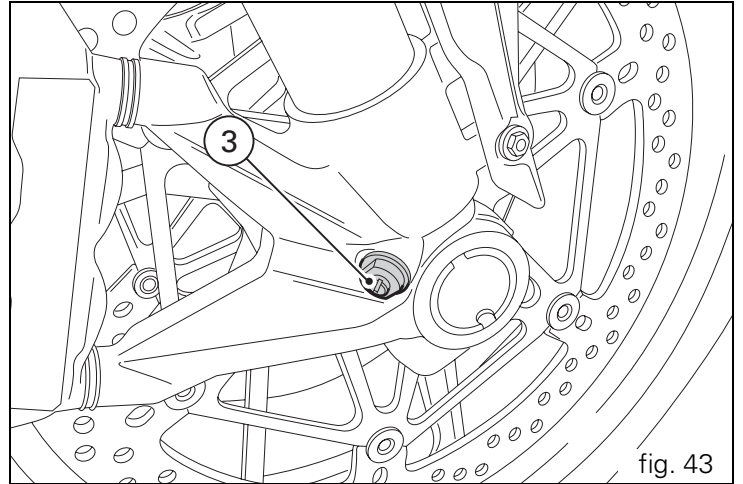

fig. 43
- 3) to adjust compression damping (fig. 43).